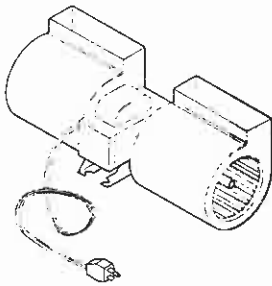

Figure 20
**Note:** The heater may be installed directly on a floor made of standard combustible wood construction materials. Do not install the heater directly on carpeting or other soft floor covering such as vinyl tile or flooring materials. Use a wood or metal panel that extends the full width and depth of the heater between the heater and any soft floor covering material. Refer to Figure 20 for base dimensions.
The FAB-1100 assembly provides a forced air circulation feature for your appliance. This kit mounts directly into the lower intake chamber with an electrical connection made at the receptacle provided. The appliance must have an independent 120Vac power line incorporated at the time of installation. Refer to Step 6 of the installation instructions supplied with the forced air kit (Figures 20 and 21).